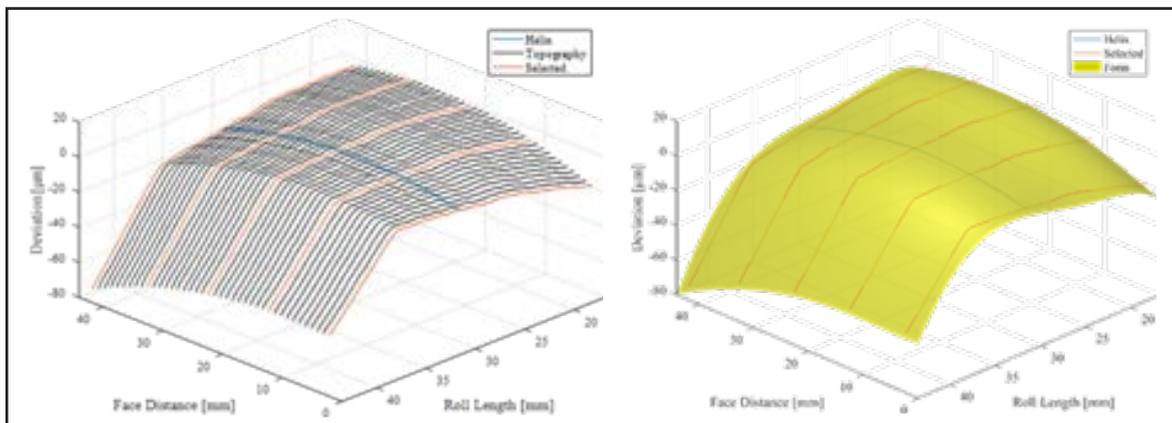

Figure 6 Selected 2-D profile scans (left) for surface polynomial fitting (right).
- Select the number of profile measurements to model the tooth surface (5 are selected in the example in Fig. 6).
- Fit a surface polynomial to the selected profile and helix data (Fig. 6), and then subtract the surface polynomial surface to create 5 residual deviation profile scans.